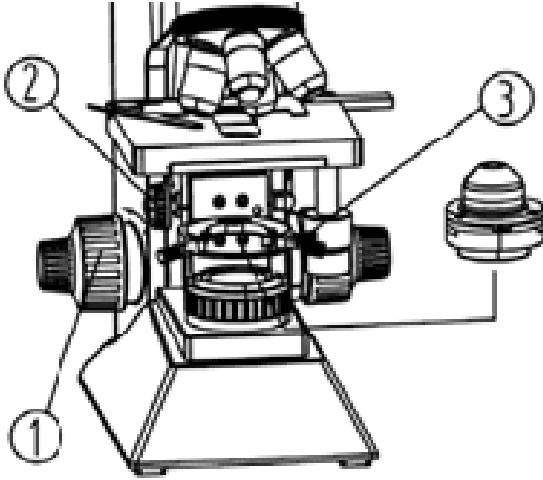

Fig. 5 Installing Condenser
- Turn the coarse focus knob (① in Figure 5) to raise the stage to its highest position.
- Turn the condenser holder knob (② in Figure 5) to lower the condenser holder to its lowest position.
- Loosen the condenser locking screw on the holder (③ in Figure 5). Slide the condenser into the holder. The guiding screw on the back side should go into the slot of the condenser holder.
- Tighten the locking screw (③) to secure the condenser in place. Use the condenser holder knob (②) to move the condenser up to the highest position.